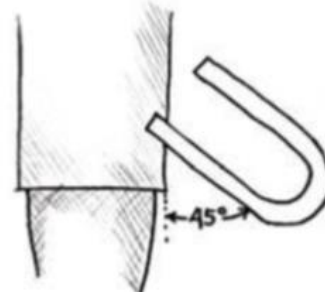

Figure 9: Starting the scarf of a chain link
- Half-face blows while holding the link at a 45° angle to the anvil edge as shown in figure 9.